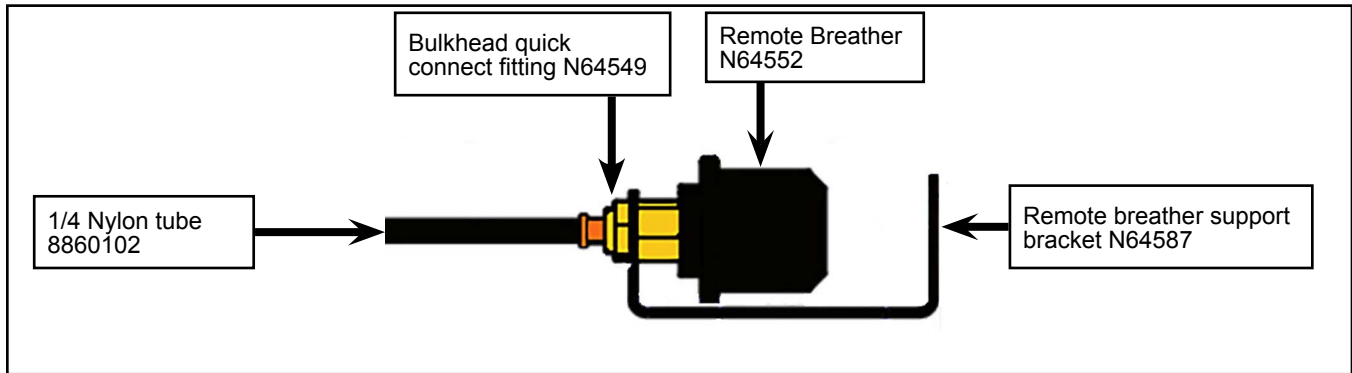

Figure 4 - Remote Breather Assembly
- 1.12. Affix bulkhead quick connect fitting N64549 on the remote breather N64552. See Figure 4.
- 1.13. Affix bulkhead quick connect fitting N64549 on the remote breather support bracket N64587. See Figure 4.
- 1.14. Connect the 1/4" nylon tube 8860102 on the bulkhead quick connect fitting N64549. See Figure 4.